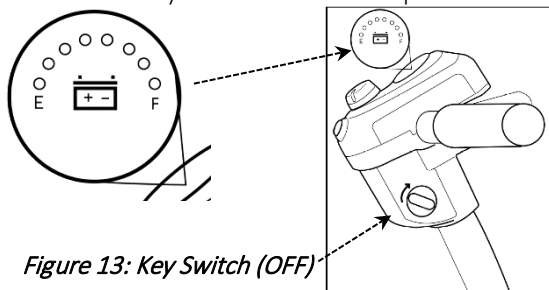

Figure 13: Key Switch (OFF)
6. Rotate the key clockwise to the ON position. *See Figures 13 and 14 below.*